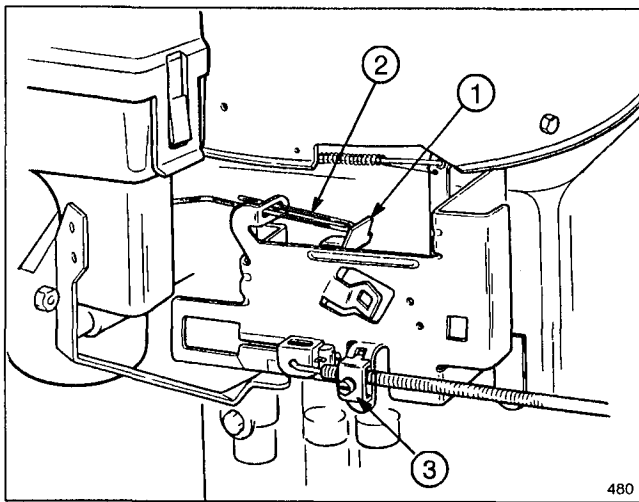

Figure 22
2. The throttle lever should be just touching the choke link (Fig. 22); if they are not in this position, an adjustment is necessary:
- B. Loosen the throttle cable clamp screw (Fig. 22) and move the control cable casing and wire until the throttle lever touches choke link.